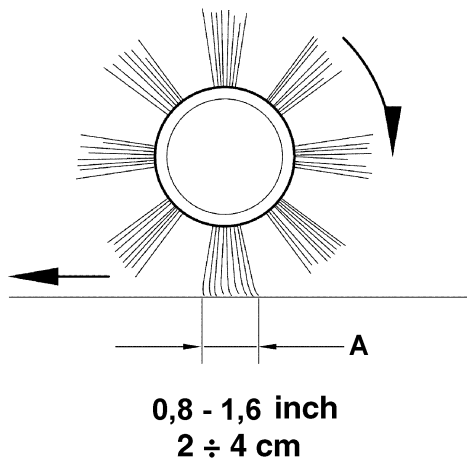
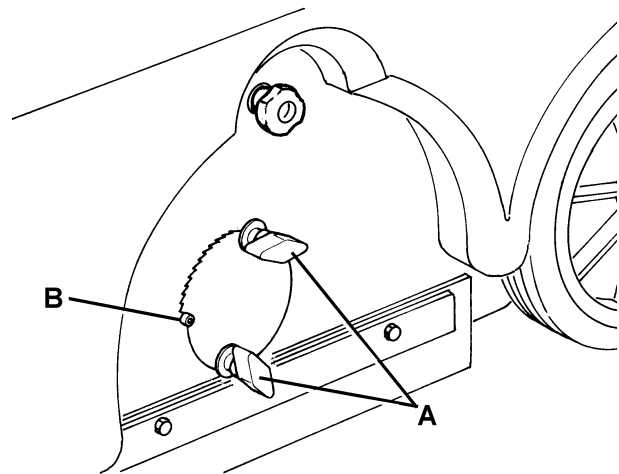
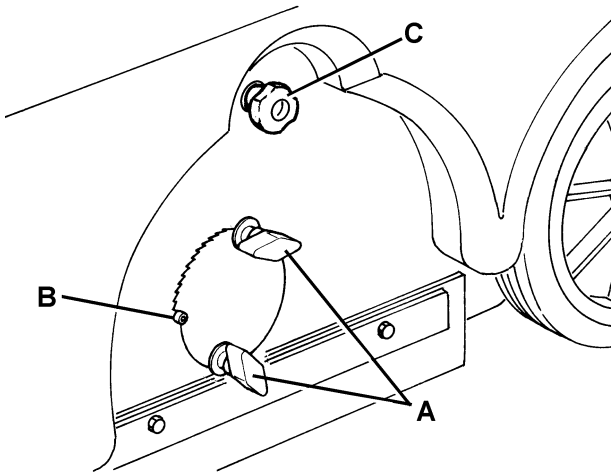

Figure 2
Figure 3
Figure 4
- Check that the main broom print (A, Fig. 2), along its length, is 2 to 4 cm wide.
- If the print (A, Fig. 4) is not within specifications, adjust the broom height as shown in step 2.
2. Make sure that the machine cannot move independently; if equipped, press the pedal brake (26).
3. Turn the ignition key (61) to "0".
4. Loosen the knobs (A, Fig. 3) on both sides of the machine.
5. On both sides of the machine, loosen the knobs (A, Fig. 3) and move the main broom height variation indicator (B) as necessary, then tighten the knobs (A).
The indicator (B, Fig. 3) must be in the same position on both sides of the machine; the maximum difference allowed to obtain the print (A, Fig. 2) shown in step 1 (2 - 4 cm wide) is two notches.
1. Drive the machine on a level floor and press the pedal brake (26), if equipped.
2. Turn the ignition key (61) to "0".
3. Loosen the knobs (A, Fig. 4) on both sides of the machine.
4. Move the height variation indicators (B, Fig. 4) until the main broom is at the maximum distance from the ground. Tighten the knobs (A, Fig. 4).
5. Open the hood (7).
6. On the left side of the machine, loosen the knob (C, Fig. 4).
13. Tighten the knob (C, Fig. 4).